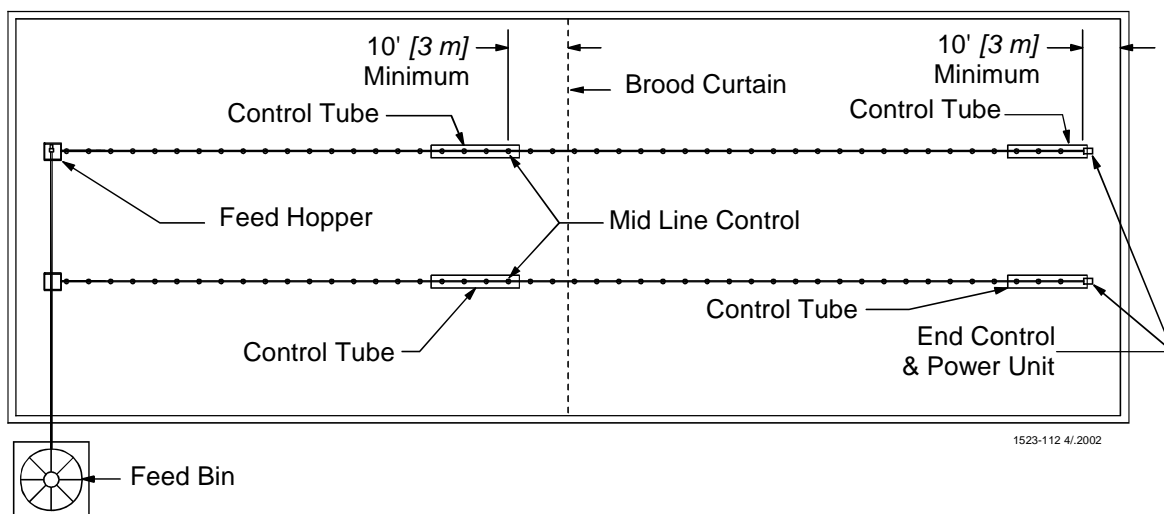

Figure 1.Component location diagram for systems up to 500 feet. (Top View).
A. Optional Mid Line Controls may be used for partial house brooding. See **Figure 1**.